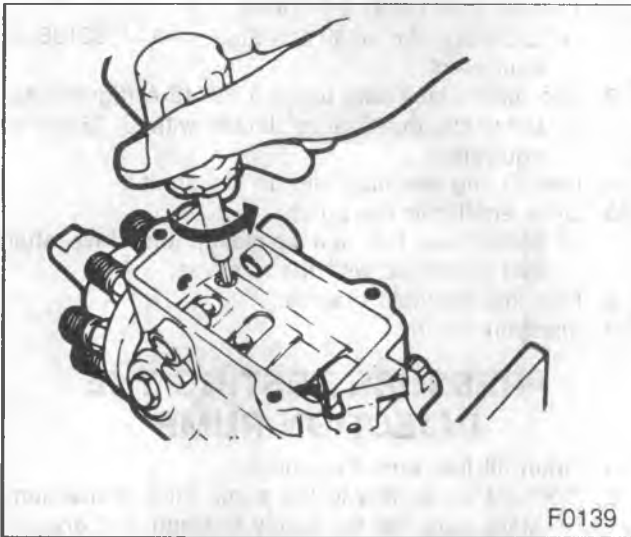

Figure 29—Vent Wire Assembly
4. Housing vent wire screw assembly (figure 29).
9. Housing vent wire screw assembly (figure 29).